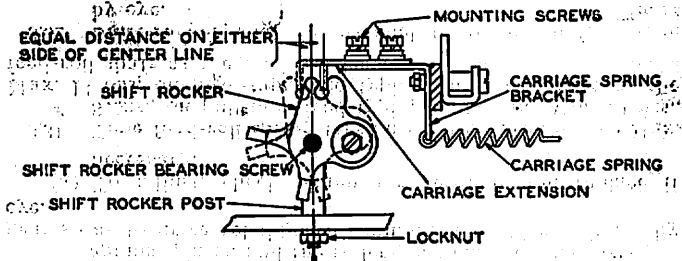

Fig. 18
3.36 **Carriage spring-bracket-toe** shall travel an equal distance on either side of a vertical line passing through the shift-rocker bearing-screw when the carriage is moved from **Ltrs.** to **Figs.** position. Gauge by eye. **Fig. 18**